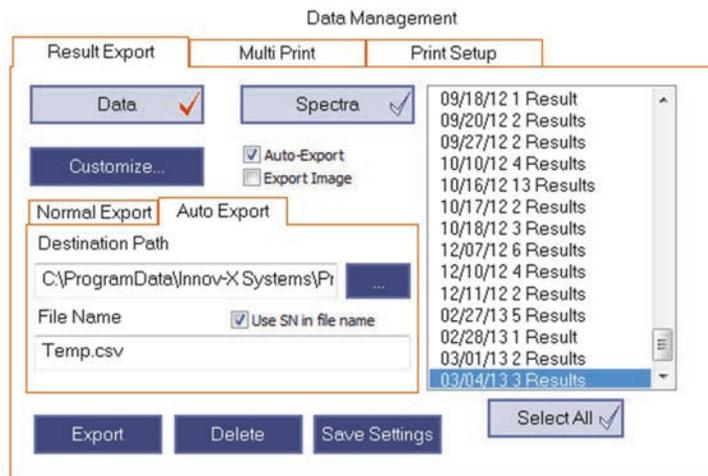

Figure 1-29 The Auto Export check box and tab selected
1. Select the **Auto-Export** check box (see Figure 1-29 on page 23).